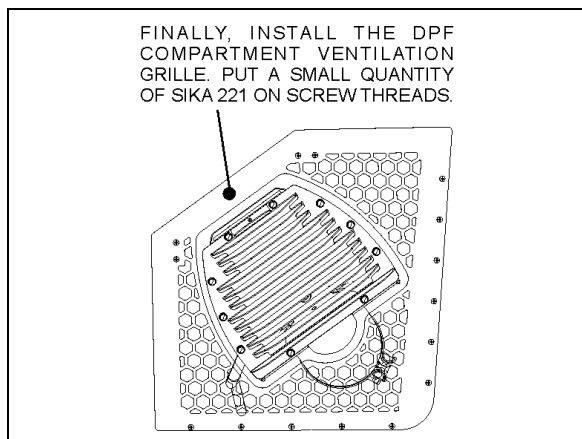

FIGURE 9: DIFFUSER POSITION ADJUSTMENT 04015_3
5. Reinstall the DPF compartment grille. Put a small quantity of Sika 221 on screws (fig.9).